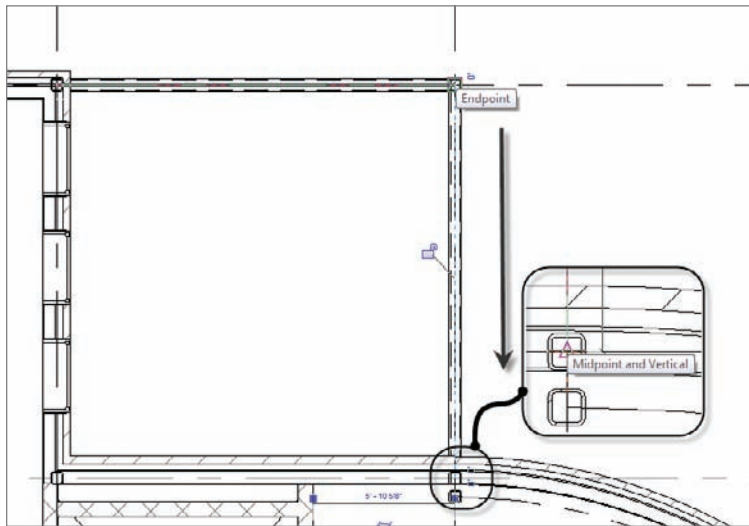

FIGURE 8.36 Adding the second beam
8. With the Beam command still running, pick the exterior column (F-1), then column F-2, as shown in Figure 8.36.